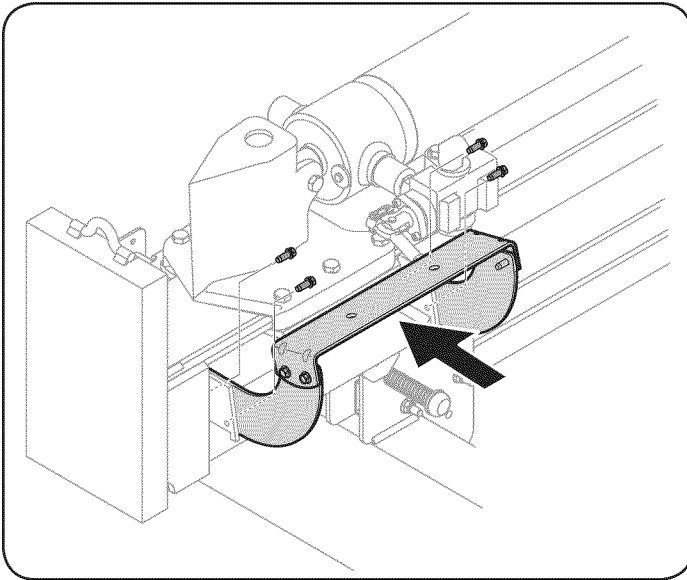

Figure 7
17. Reattach the log cradle to the side of the beam with the control valve, aligning the holes in the cradle with the holes in the beam. See Figure 7.